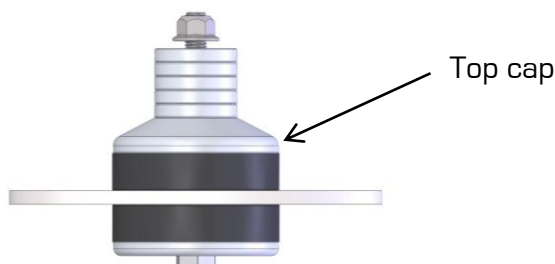

Figure 4: Bottom spacer moved to top- $\frac{1}{4}$ " higher
**To Raise the Engine:** In order to raise the engine, the  $\frac{1}{4}$ " spacer at the bottom of the mount needs to be moved to the top resulting in a  $\frac{1}{4}$ " increase in height (see Figure 4). Disassemble the mount by holding the top cap with a spanner wrench or other suitable tool and loosen the M10 bolt on the bottom of the mount. Remove the  $\frac{1}{4}$ " spacer from the bolt and then reassemble the mount. Torque the bolt to 30 ft-lbs. Add the spacer that was removed from the bottom of the mount to the stack of spacers on the top of the mount.